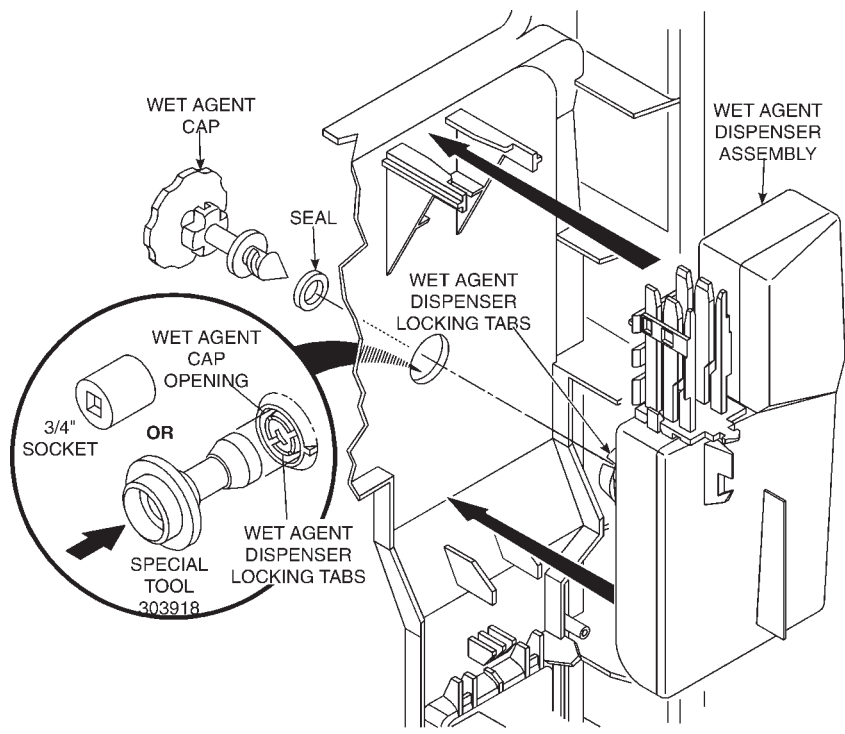

Fig. 3-12
3. Turn the wet agent cap and seal assembly counterclockwise and remove it. (Fig. 3-12)
5. Use Special Tool - Part No. 303918 or a $\frac{3}{4}$ " socket to press over the attaching tabs in the wet agent cap opening. Remove wet agent dispenser assembly. (Fig. 3-12)
7. Press the wet agent dispenser assembly into position so the locking tabs engage the wet agent cap opening. No tool is needed for assembly. (Fig. 3-12)